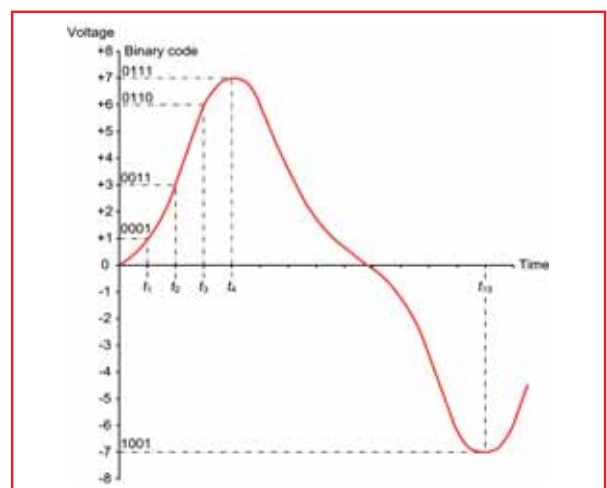

Fig.9.3. An analogue signal quantised into voltage levels by sampling at regular intervals ( $t_1, t_2, t_3$ , etc.)
Thus, any voltage represented by a digital code in which the MSB (most significant bit) is logic 1 will be negative. Fig.9.3 shows how a typical analogue signal would be quantised
**9.6.** The binary codes produced by a four-bit bipolar analogue-to-digital converter (see Fig.9.2 and Fig.9.3) sampled at intervals of 1ms, have the following values: